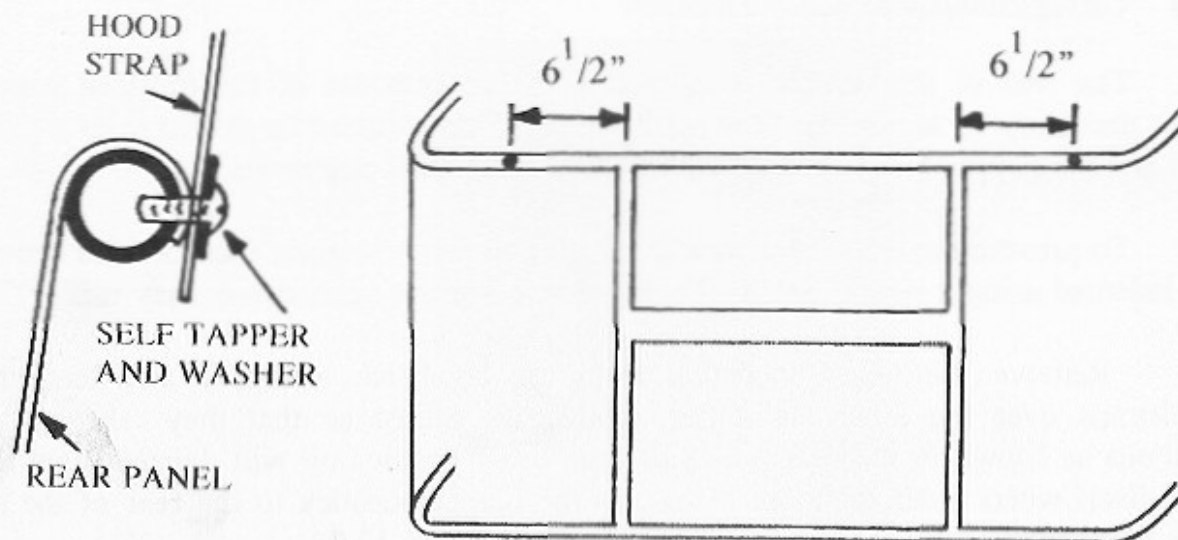

Figure 13.2 Hoodstrap Fixing
2.2 Noting the dimensions in 13.1.3 fix the hoodsticks into position. The hoodsticks should align with the 'darts' in the hood. Drill the inner edge of the top rear tube with two $1/8$ " holes, $6\frac{1}{2}$ " outboard of the vertical braces as shown in figure 13.2.